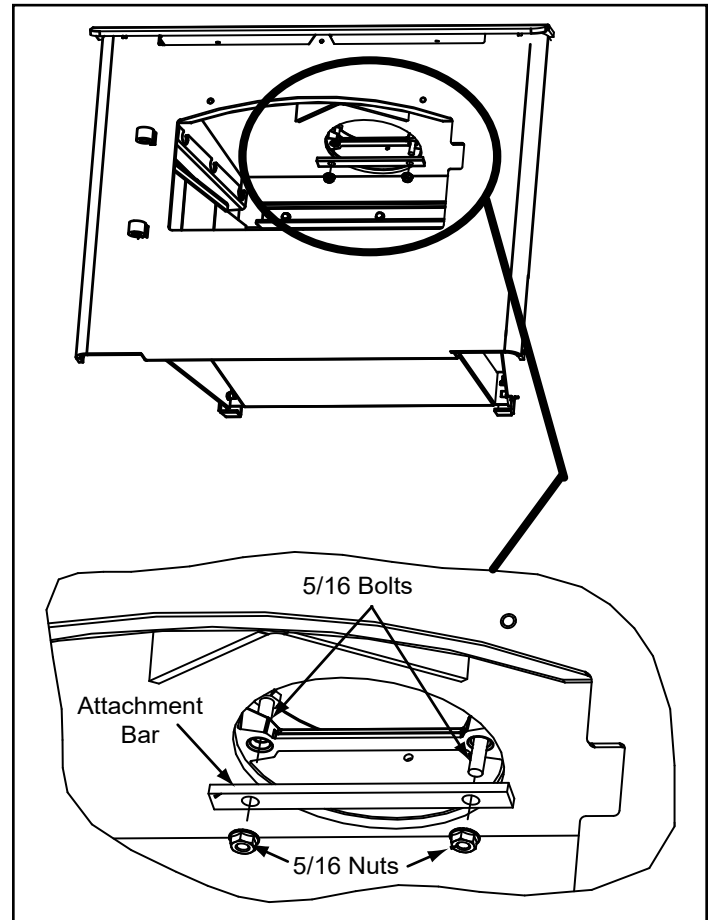

Figure 5.5
1. Once you have the appliance in place and secured, reach up through the flue opening and grab the attachment bar and pull down inside flue opening (**Figure 5.5**).